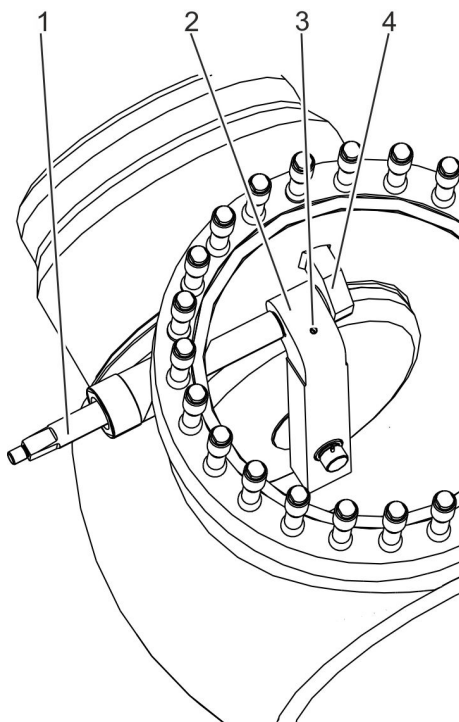

Fig. 24: Detaching the valve shaft
3. → If there is a bore (Fig. 24/3) in the disc lever (Fig. 24/2): Insert the ring bolt into the bore in the disc lever.
- Apply a hoist is such a way that the swing check plate cannot fall into the body after pulling out the valve shaft (Fig. 24/1).
6. → Pull the valve shaft (Fig. 24/1) out of the retaining element (Fig. 24/4) in the body and the disc lever (Fig. 24/2).